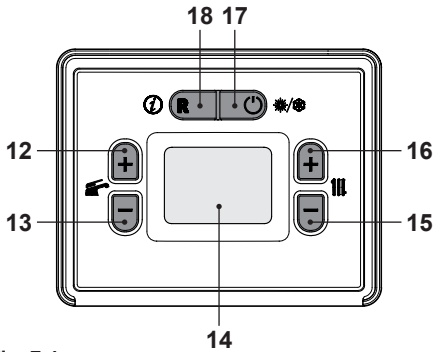

Fig. 7.4
- Press the 17 key until both  and  symbols appear on the display (Fig. 7.4).
- Switch off the boiler by pressing the 17 (Fig. 7.4) key until the message **OFF** appears on the LCD display (Fig. 7.3).